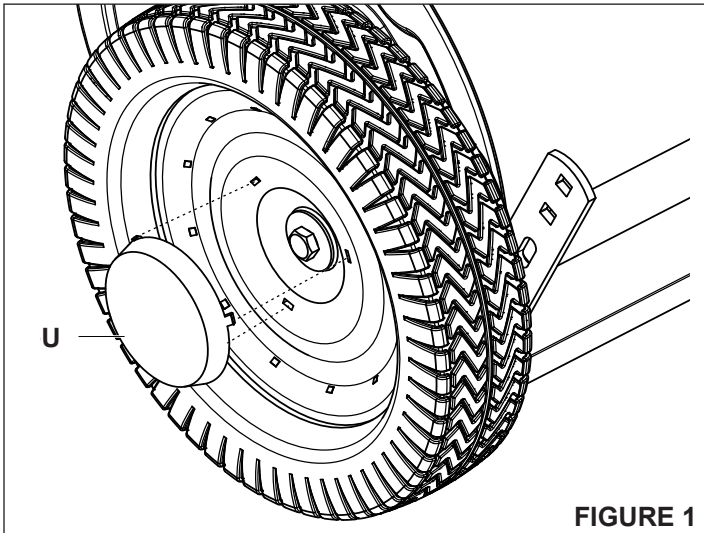

FIGURE 1
STEP 1: (SEE FIGURE 1)
- Install the hub cap (U) onto the wheel by lining up the tabs on the hub cap (U) to the holes on the wheel. Repeat for the other wheel.